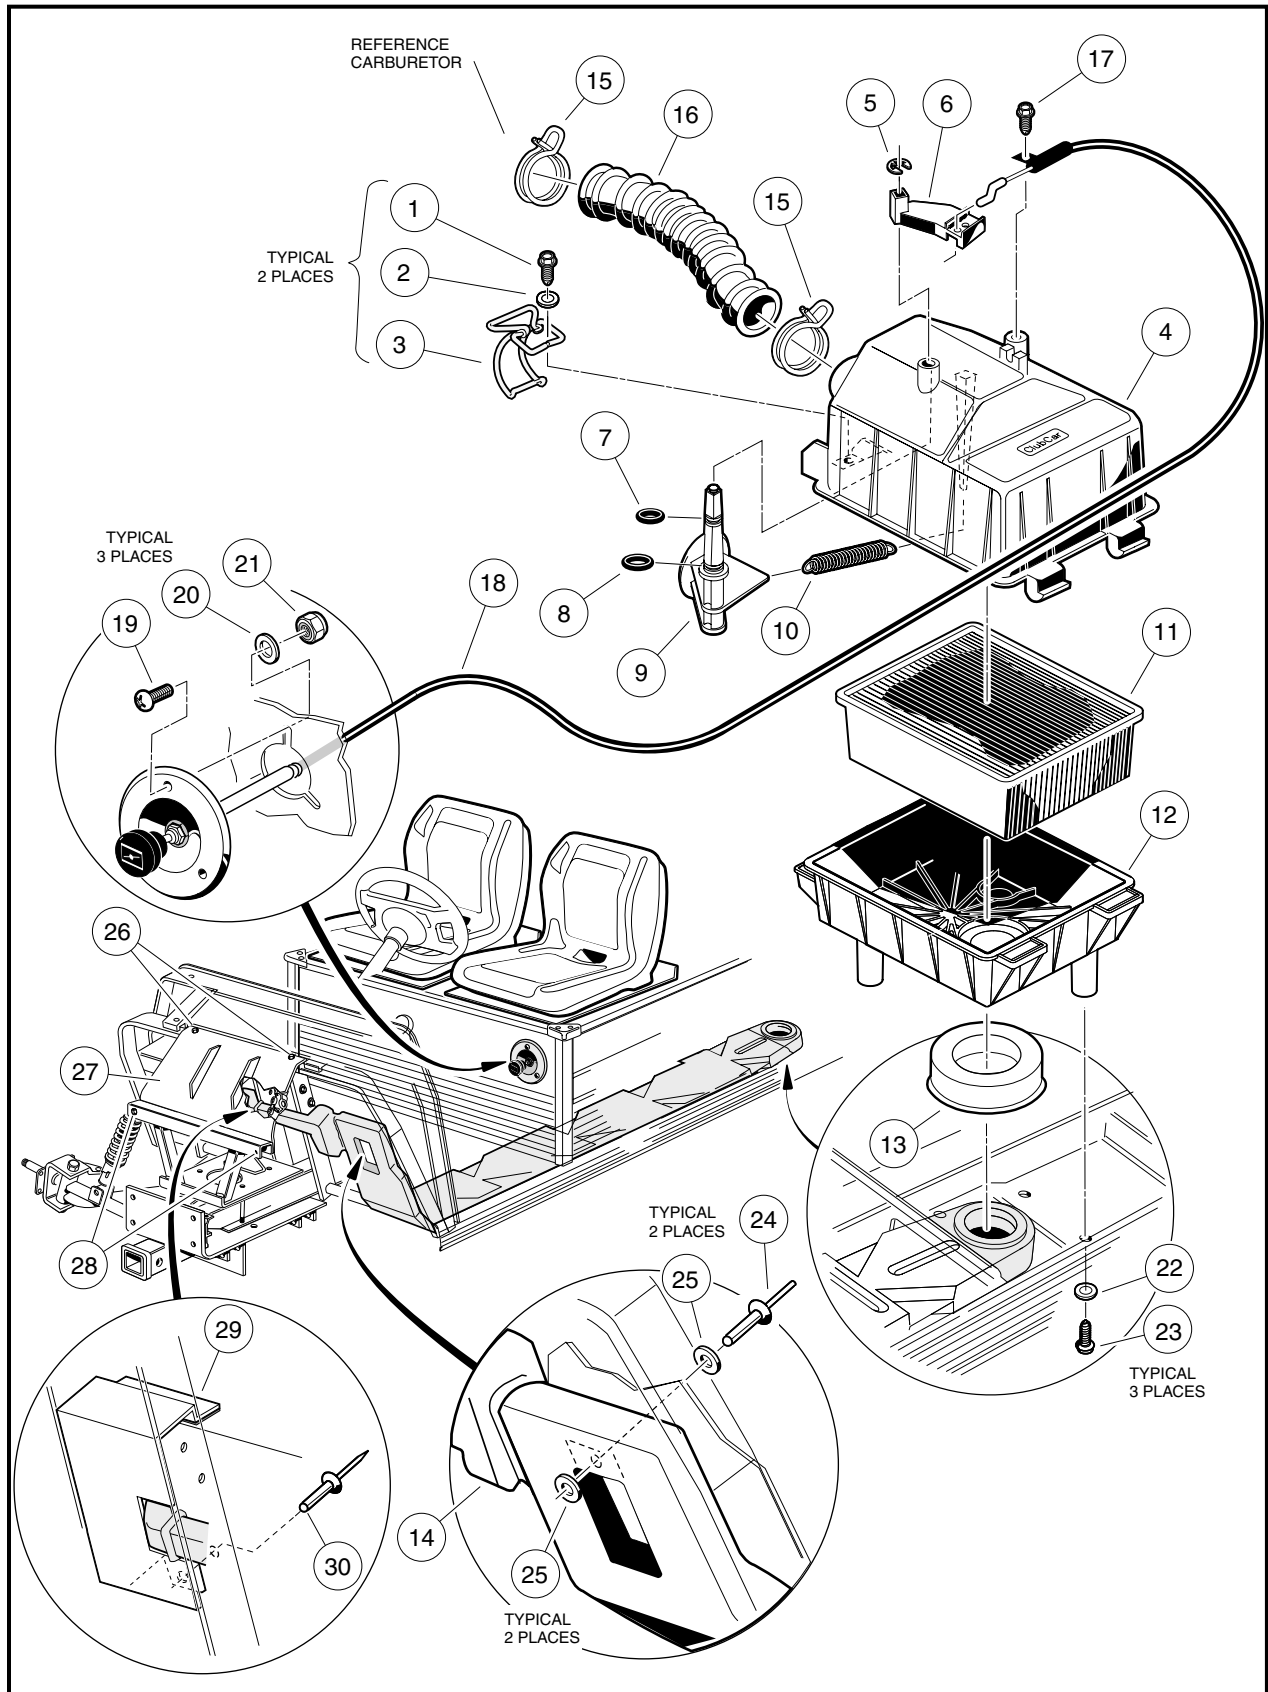

Figure 14-15 Air Intake and Choke Assemblies
14. Remove the shield (29) from the vehicle frame.
15. Drill out the pop rivet (24) securing the top of the intake duct to the floorboard (**Figure 14-15, Page 14-23**).
2. Secure the front of the duct to the underside of the floorboard with pop rivet (24) and flat washers (25) (**Figure 14-15, Page 14-23**).
- 7.1. Attach each of the front A-arms to the to the shock tower at the top shock mount and bottom hole locations of the strip plate (27) using bolts (28) and lock nuts. Do not tighten (**Figure 14-15, Page 14-23**).
3. Lift two latches (3) on the side of the air box (**Figure 14-15, Page 14-23**).
4. Remove the hose clamp (15) from the air hose and remove hose from the air box assembly.
5. Standing on driver side of vehicle, grasp air hose mounting inlet and open box fully. Remove filter element (11).
8. Fasten wire latches (3). Make sure latches securely engage the bottom half of the box. **See following CAUTION.**
9. Install hose (16) and hose clamp (15) (**Figure 14-15, Page 14-23**). Make sure clamp ends are located in the 12:00 o'clock position.